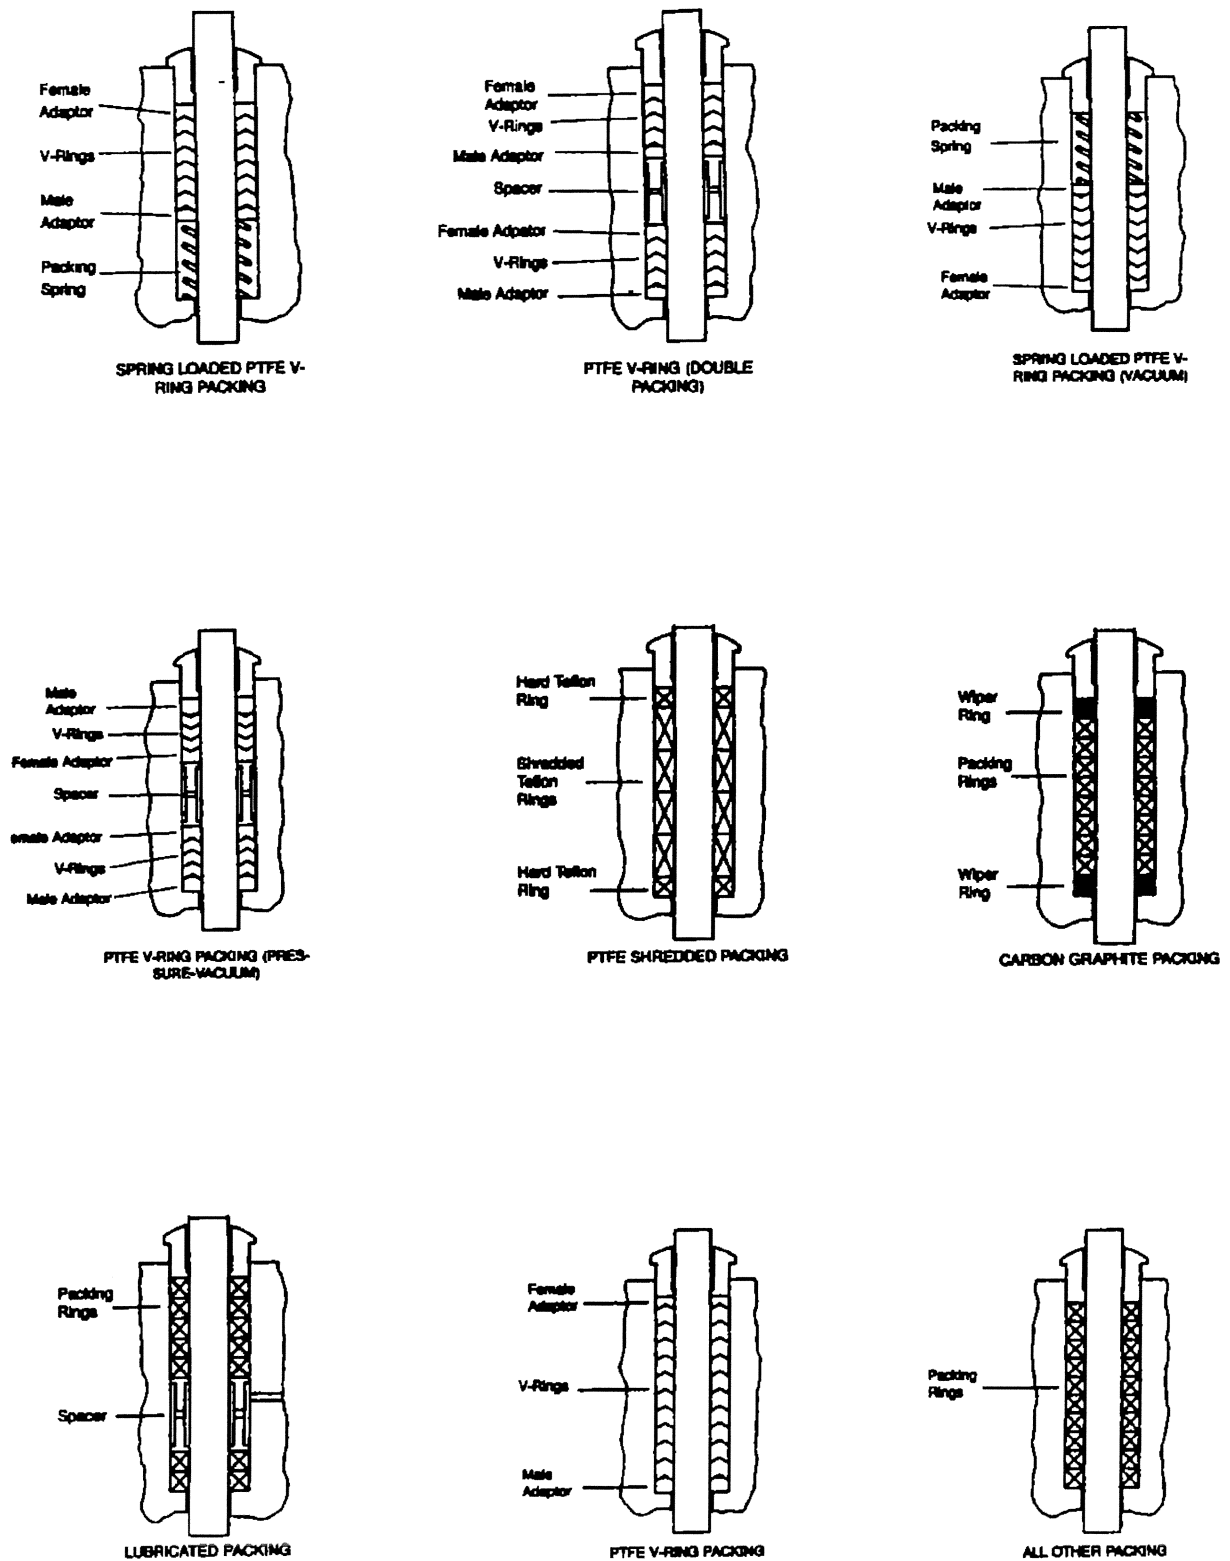

Figure 4
9 Packing Installation (Figure 4, page 12)
- a The various packing types (except for the bellows bonnet) are illustrated in Figure 4, page 12. Slide the packing components one at a time carefully over the stem and into the packing box. Push the packing components to the bottom of the packing box one at a time with a piece of plastic pipe slightly smaller than the OD of the packing. Be careful when installing PTFE V-Ring packing so as not to damage the inner or outer edges. If the edges are damaged, the packing may not seal.